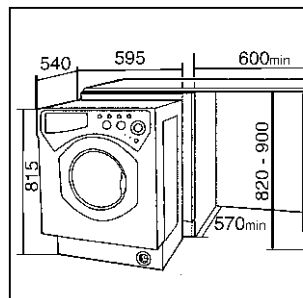

Fig. 8
- Push the machine into the opening, aligning it with the cabinets (Fig.8).